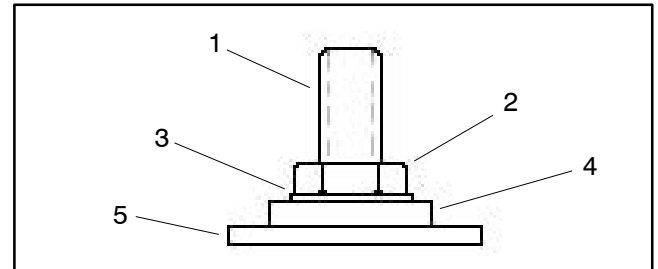

Figure 63
8. Make sure that lower nuts are properly tightened on traction motor terminals (Fig. 63 and 64). Lower nuts on F1 and F2 terminals should be torqued from 50 to 60 in-lb (5.7 to 6.8 N-m). Lower nuts on A1 and A2 terminals should be torqued from 110 to 140 in-lb (12.4 to 15.8 N-m).